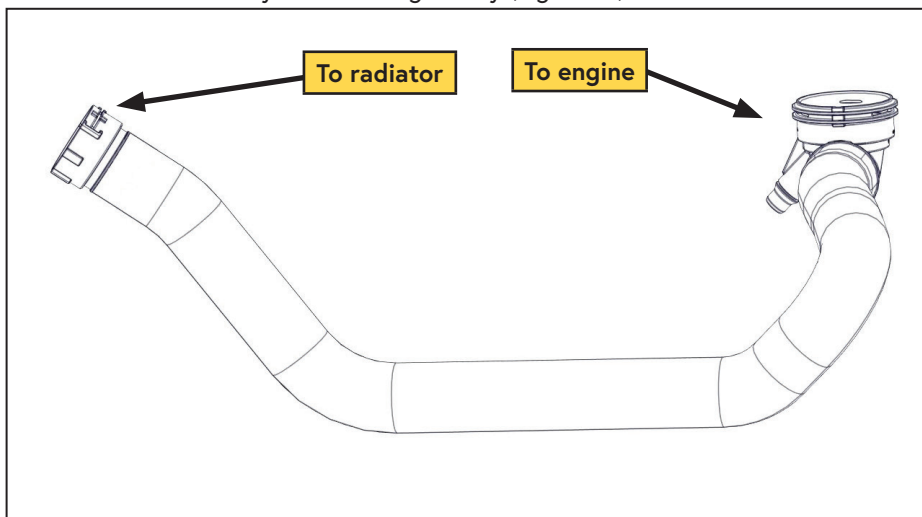

Figure 26 — Lower radiator hose
- ☐ Uncouple the lower radiator hose assembly at the engine and radiator and remove the assembly from the engine bay (Figure 26).